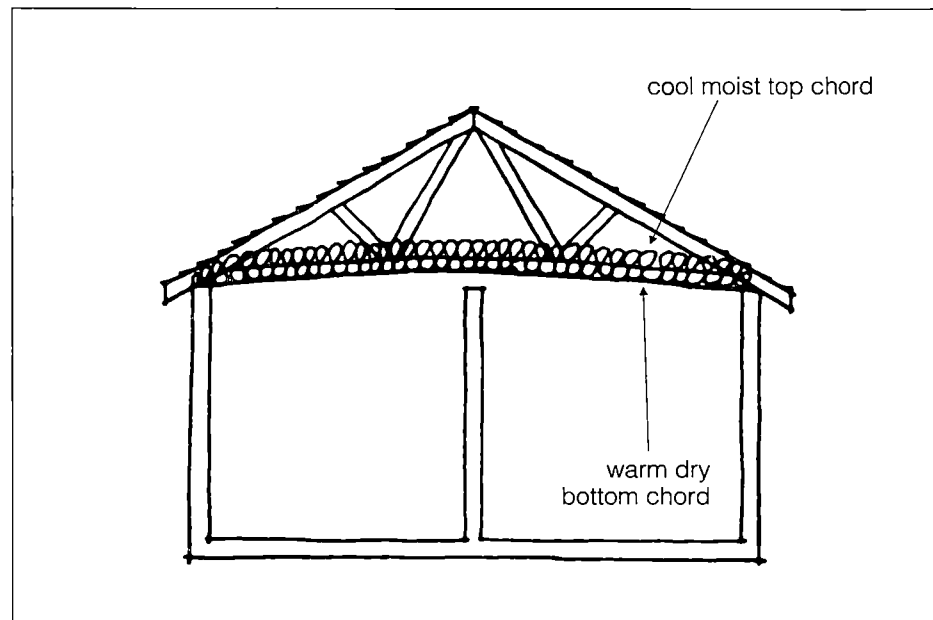

Fig. 7. Differential shrinkage
*As lumber dries in roof trusses, shrinkage occurs. Since the bottom chord is warmer and drier due to attic insulation, it may shrink more than the top chord. The top chord may actually lengthen in some circumstances if it absorbs moisture. This differential shrinkage causes the truss to bow upwards (fig. 7). Cracks at the intersection of the ceiling and partition walls may open during the winter and close in the summer. Generally, such problems are worse during the first year after construction, when the house is drying out.*